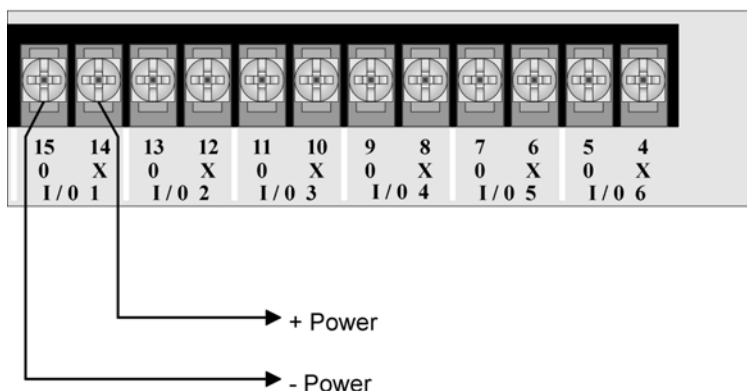

Figure 3.16 Flexput Circuits Used as Auxiliary Power
1. Wire the Flexput circuit(s) that will be used for auxiliary power. See Figure 3.16 for location of Flexput circuits.